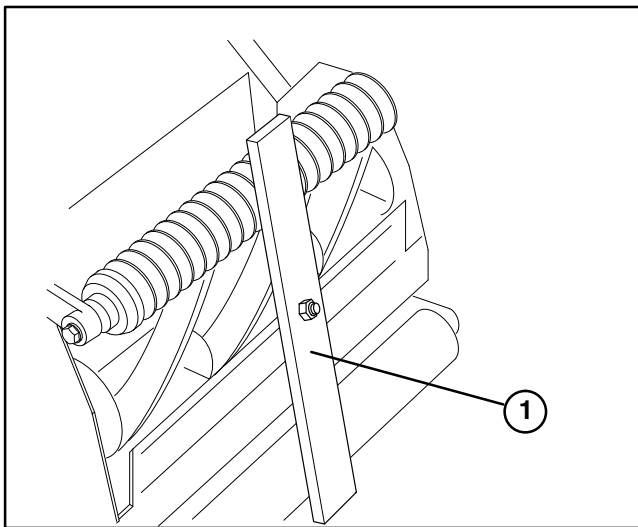

Figure 11
1. Using a gauge bar, Toro part No. 59-7900 or equivalent (Fig. 11), set head of screw to desired Height-of-Cut. This measurement is from bar face to underside of screw head.
2. Place gauge bar across front and rear rollers (Fig. 11).